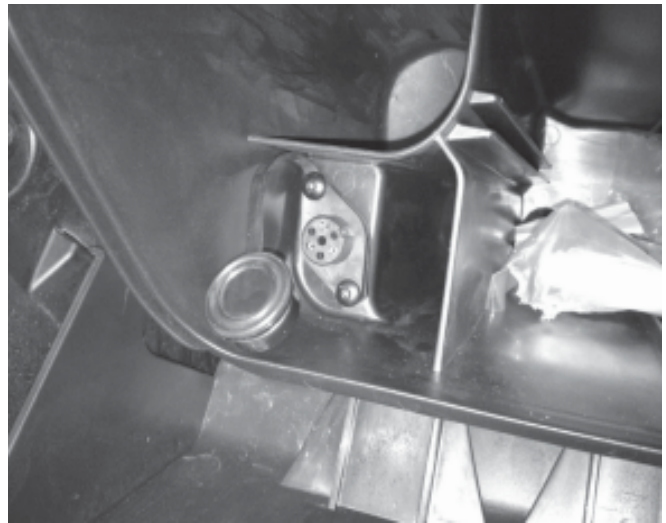

Figure 10
11. If using a winch with a remote control placing the remote socket connector in the front glove box is a good location as shown in figure 10.